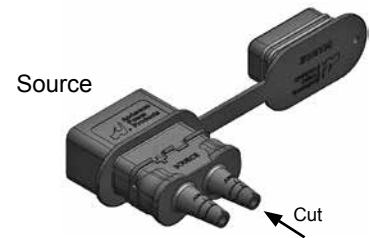

Figure 1
1. Cut legs to accommodate the outer diameter (OD) of the wire. (See Figure 1)